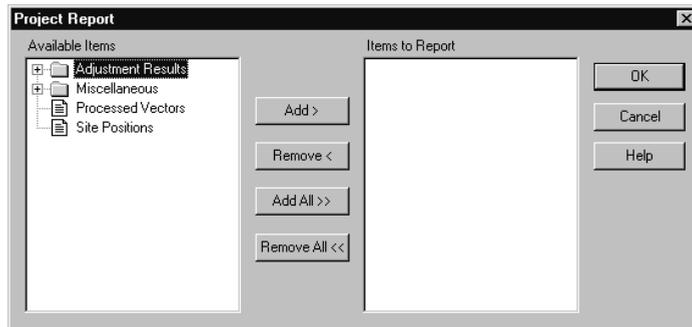

Figure 7.3. Project Report Dialog Box
1. Select **Report** from the **Project** menu to open the **Project Report** dialog box, Figure 7.3.